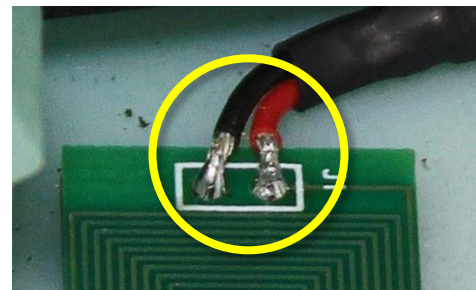

Figure 7 (LH rear door upper trim panel shown)
- a. Inspect the wire solder joint at the anti-pinch sensor printed circuit boards (Figure 7):
- a. Inspect the wire solder joint at the anti-pinch sensor printed circuit boards (Figure 7).